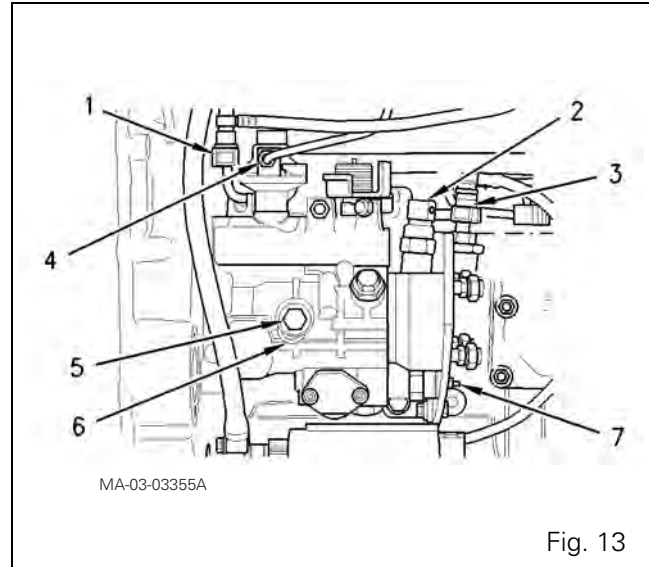
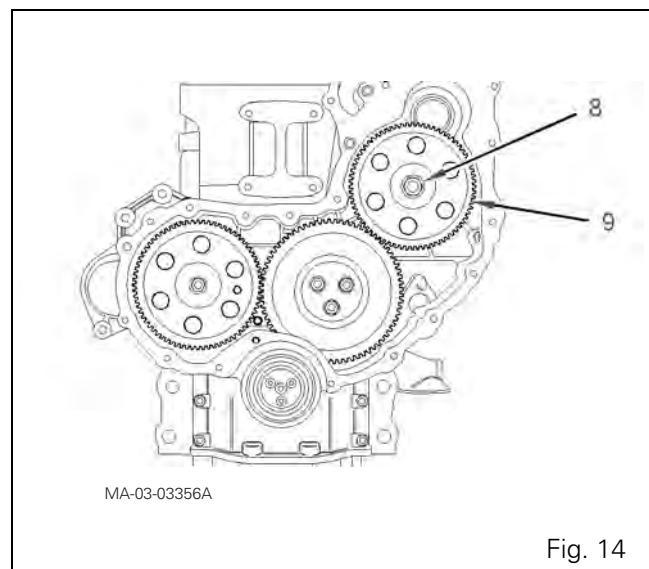

Fig. 13
Fig. 14
- 72. Loosen the lock screw (5). Turn the spacer (6) to allow the lock screw (5) to lock the pump pin. Turn the pump pin anti-clockwise until slight resistance is felt (Fig. 13).
- 74. Disconnect the fuel return line (1) (Fig. 13).
- 75. Disconnect the fuel supply line (3).
- 76. Disconnect the connector (2) of the injection timing solenoid (7).
- 77. Remove the nut (8) and retaining washer from the injection pump gear (Fig. 14).
- 78. Extract the pump gear (9) using a suitable puller.